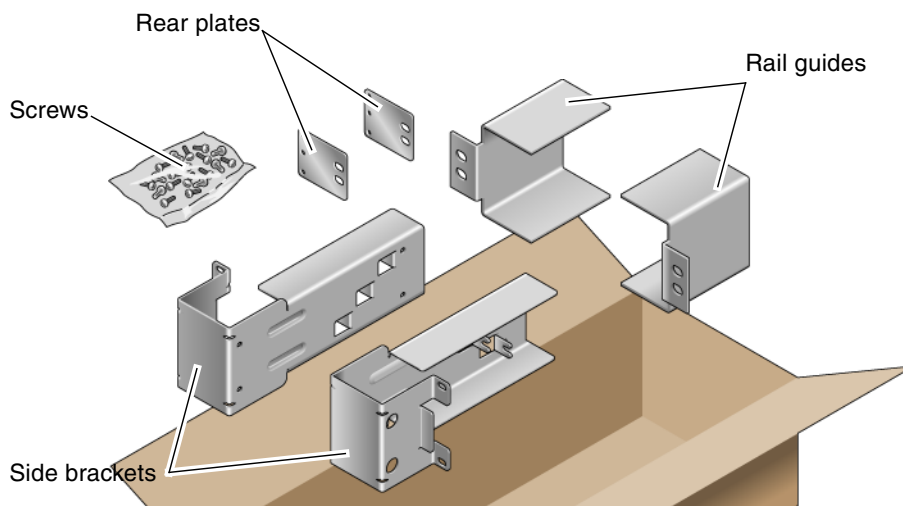

FIGURE 3-1 Contents of the Hardmount 23-Inch 2-Post Kit
1. Get the side brackets from the rack kit (FIGURE 3-1).
3. Get the rail guides from the rack kit (FIGURE 3-1).
7. (Optional) If your environment is exposed to especially high vibrations, use the rear plates to further secure the server to the rack (FIGURE 3-1).